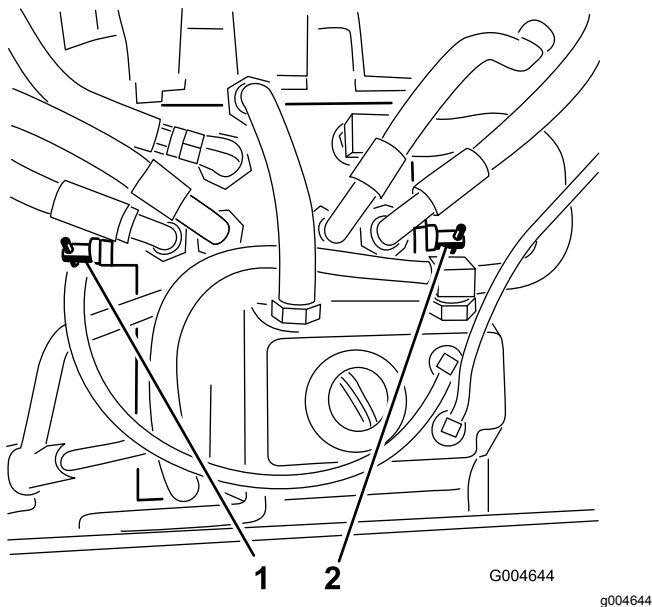

Figure 49
3. Rotate each by-pass valve counterclockwise 1 turn (Figure 49).
Rotate each by-pass valve clockwise 1 turn and hand tighten them (torque of approximately 8 N-m (71 in-lb) (Figure 49).